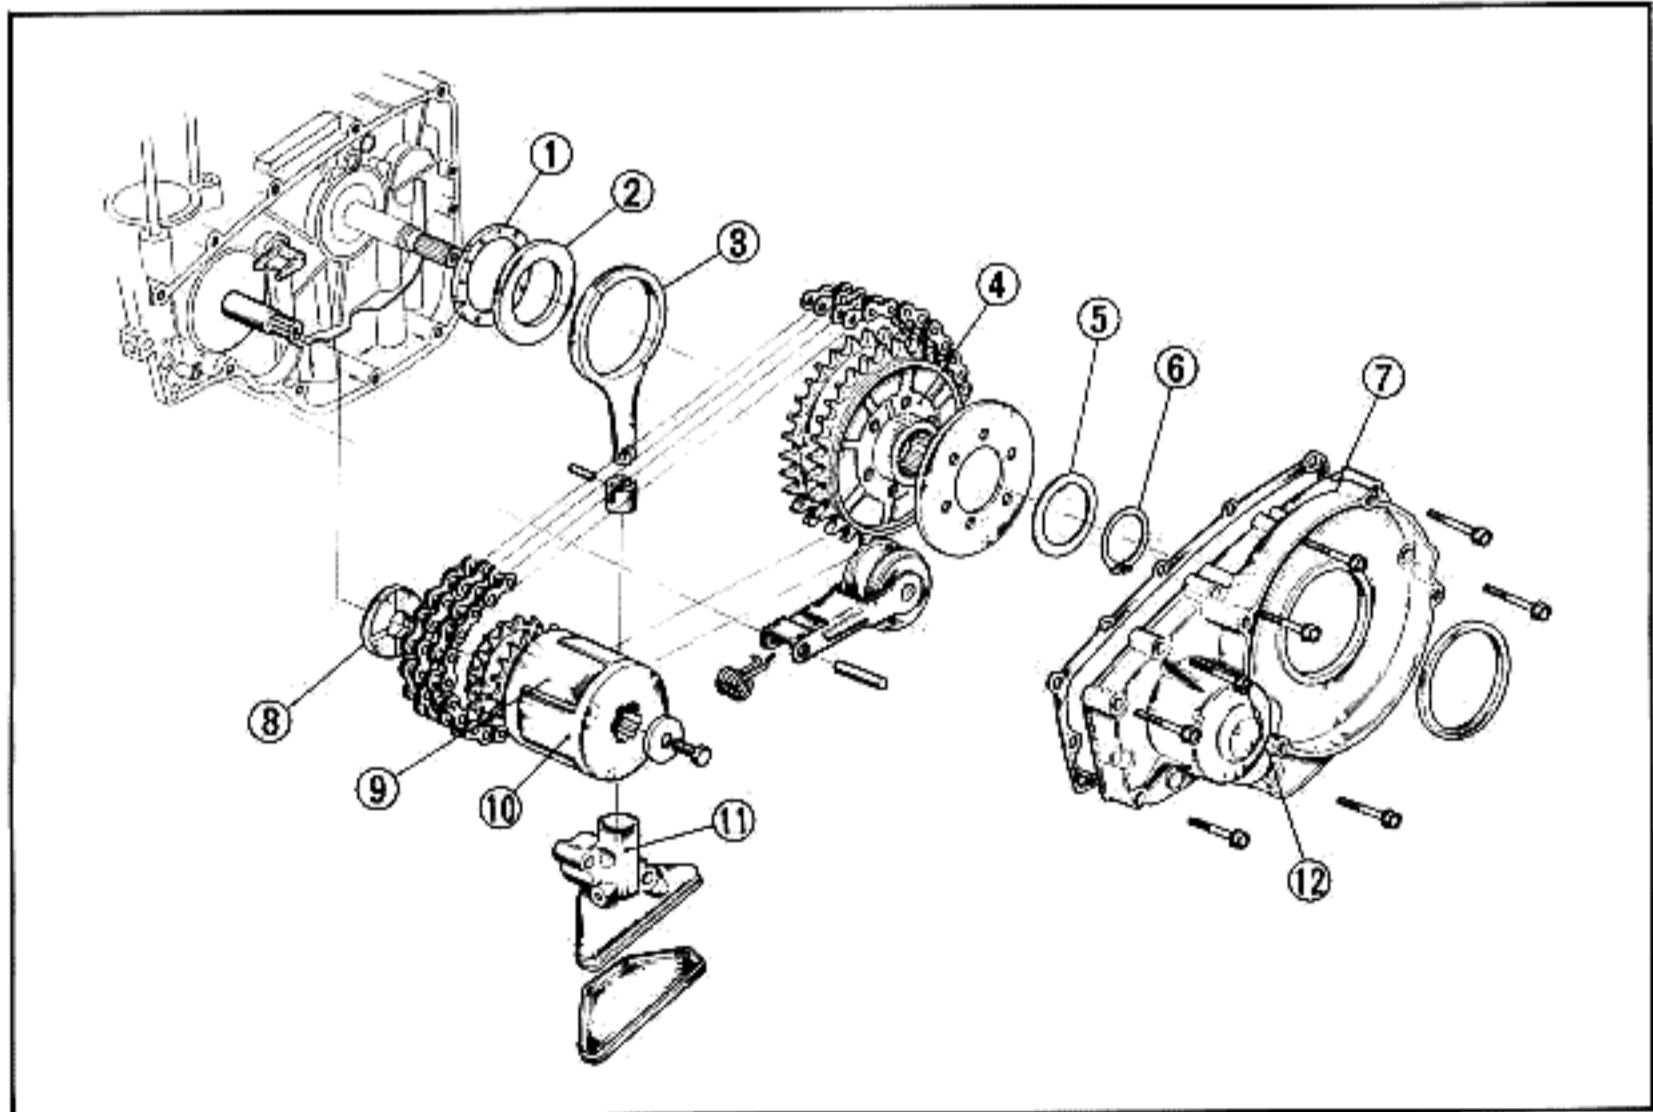

Fig. 4-18 ① Needle Thrust Bearing
- \* A 25mm flat washer is fitted to the crankshaft (Fig. 4-18).
- \* Apply thread lock cement, before tightening, on the bolt ⑫ for the left crankcase side cover (Fig. 4-18).